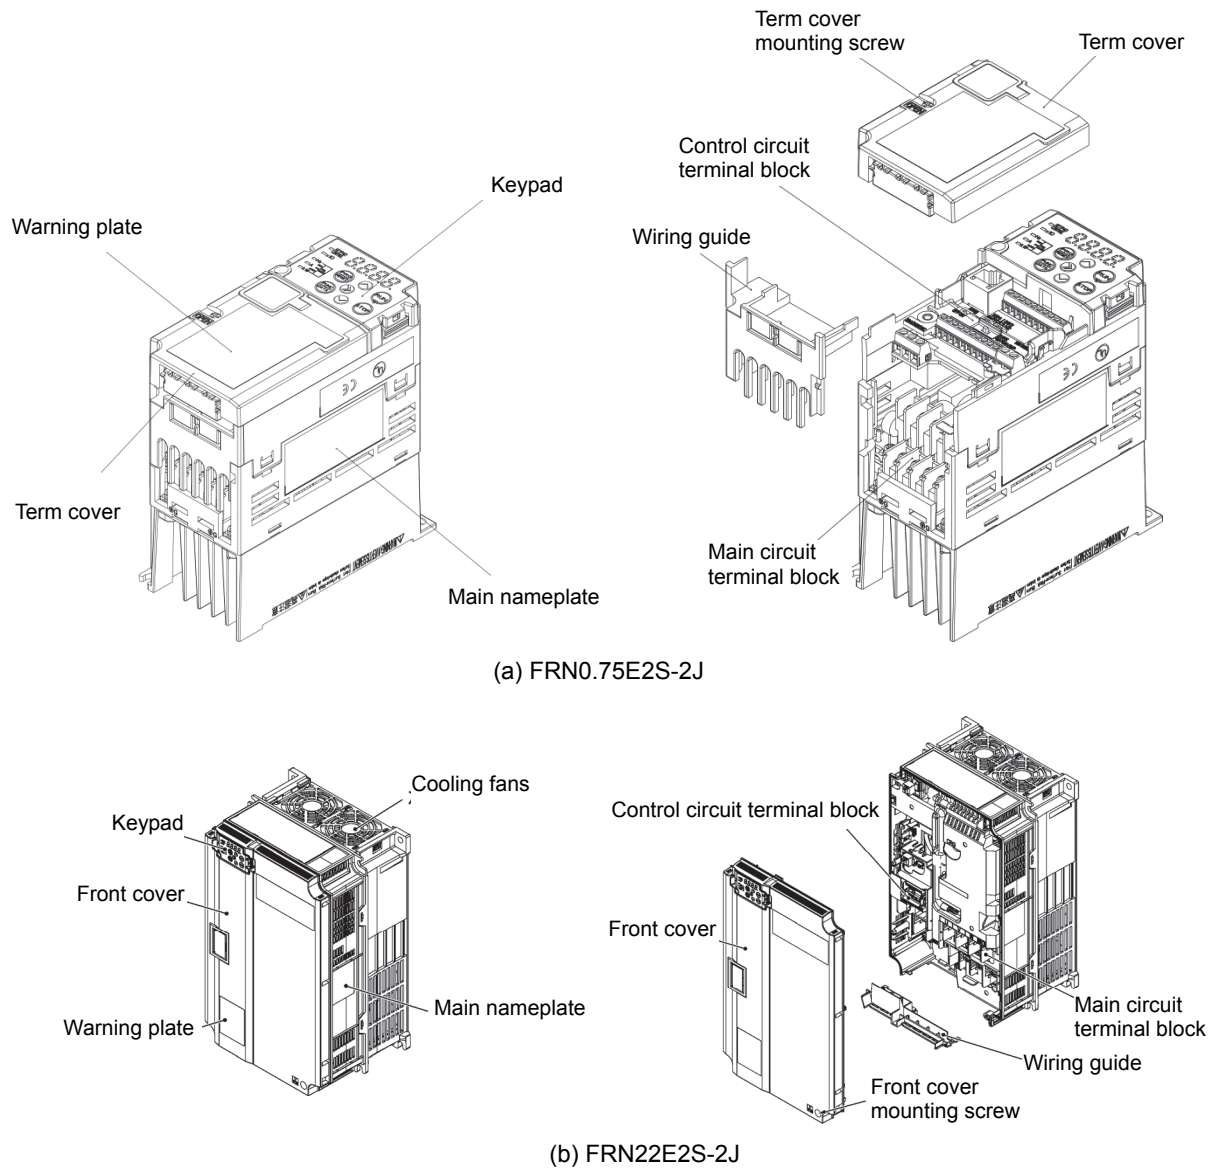

Figure 1.2-1 Outside and Inside Views of Inverters
- (2) The inverter has not been damaged during transportation—there should be no dents or parts missing.
- (3) The inverter is the type you ordered. You can check the type and specifications on the main nameplate. (The main and sub nameplates are attached to the inverter as shown on Figure 1.2-1.)